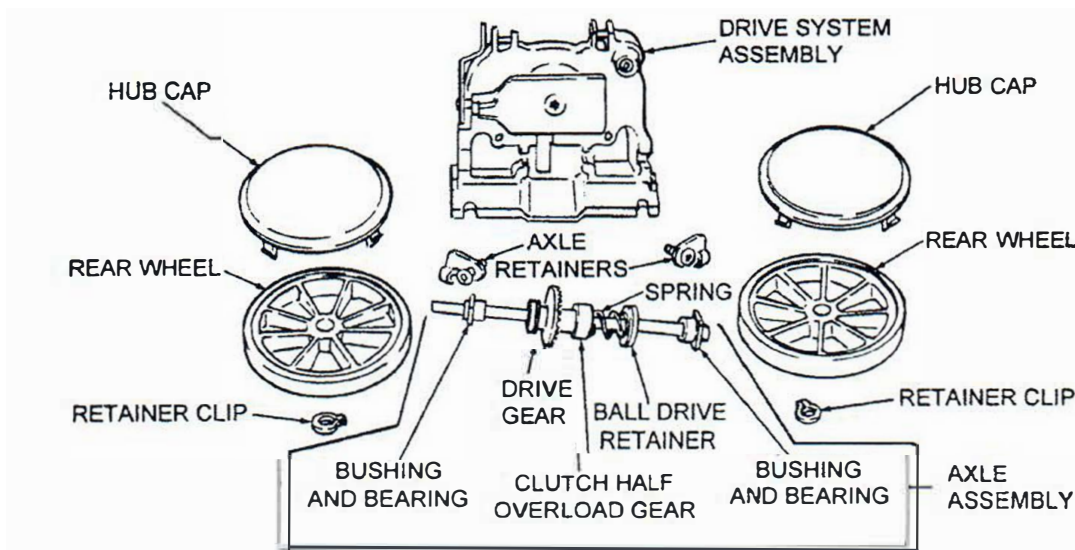

Figure 18. Drive System Assembly and Axle Assembly Components
- I. *See Figure 18.* Position axle so that left side of axle has the greatest distance from the axle drive balls to the end of axle.
- teeth of clutch half overload gear. Install bearing with washer side against drive bevel gear. Install axle bushing with longer shoulder toward bearing. Install wheel with flat side toward axle bushing, then install wheel retainer clip and hub cap. *See Figure 18.*
- K. From right side of axle, install ball drive retainer against clutch half overload gear with cup side toward gear, install spring against ball drive retainer. Install bearing with washer side against spring. Install axle bushing with longest shoulder toward bearing. Install wheel with flat side toward axle bushing, then install wheel retainer clip and hub cap. *See Figure 18.*
- L. *See Figure 18.* After the rear axle is completely assembled, move the left bearing to the right toward the clutch half overload gear assembly.